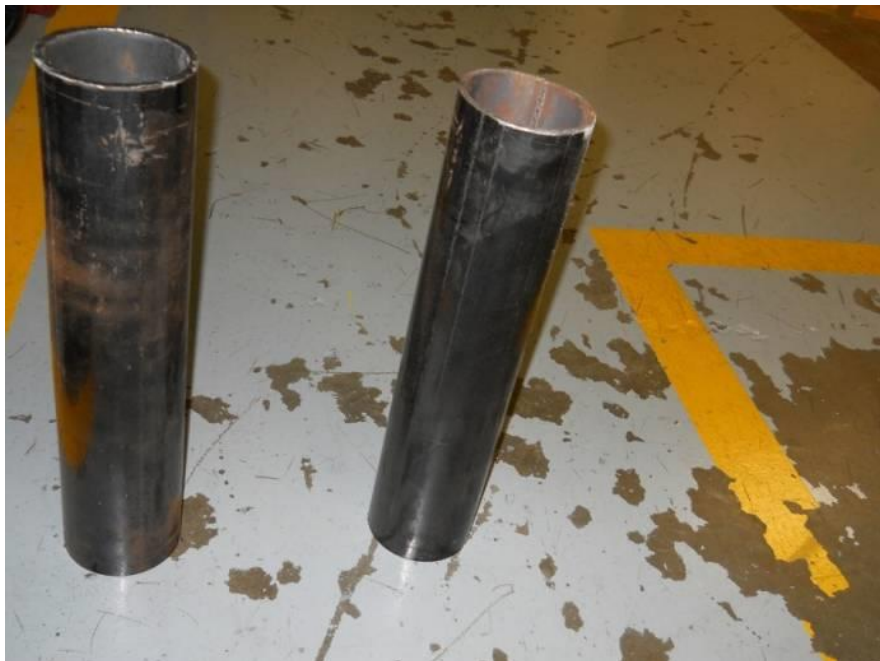

Figure 1.10 Different length pipes –Courtesy WMATA
2. Take the pipes, which are either provided by the manufacturer for the installation or the piping provided by the Authority for that installation, to the location for use (Figure 1.10).